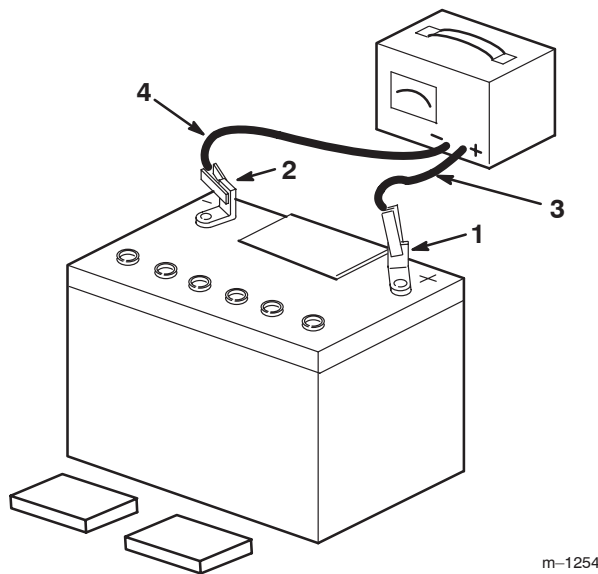

Figure 9
- Leave the covers off and connect a 3 to 4 amp battery charger to the battery posts (Figure 9). Charge the battery at a rate of 4 amperes or less for 4 hours (12 volts).
4. When the battery is fully charged, disconnect the charger from the electrical outlet then from the negative and positive battery posts (Figure 9).